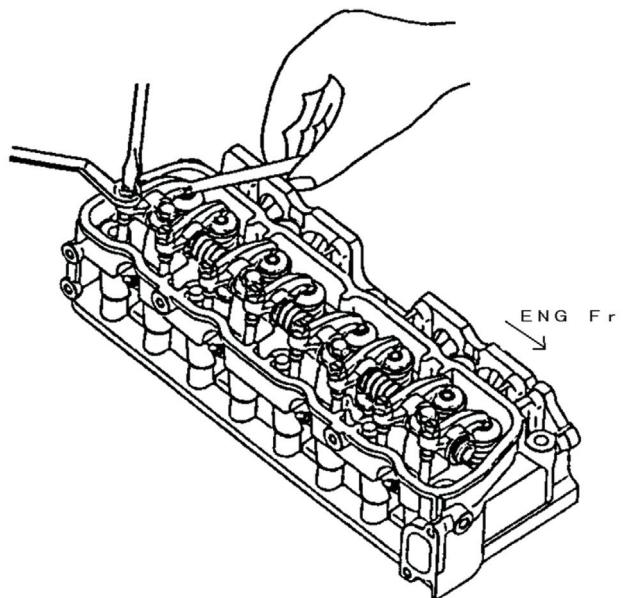

Figure 8 Valve clearances adjustment
1) Rotate the pushrod with the fingers, and check that the rod moves easily. If it does, loosen the valve lock nut (14 mm). Slightly loosen the adjusting bolt with a flat (-) screwdriver, and insert the thickness gauge. Turn the adjusting bolt to adjust the valve clearance. When the adjustment is finished, secure the adjusting bolt with the flat screwdriver so that it does not turn, then tighten the lock nut (Figure 8).